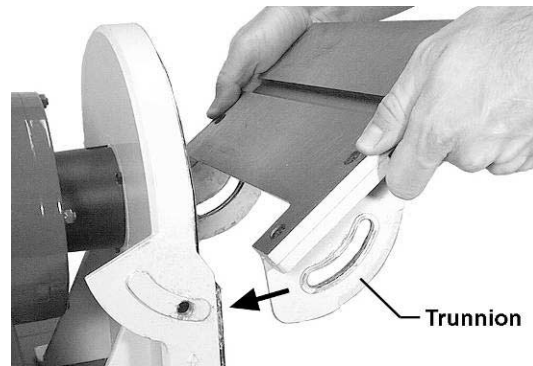

Figure 3
1. Position the disc table at an angle, as shown in Figure 3, and slide the table on so that the trunnion slots fit over the raised tracks on the disc guard.